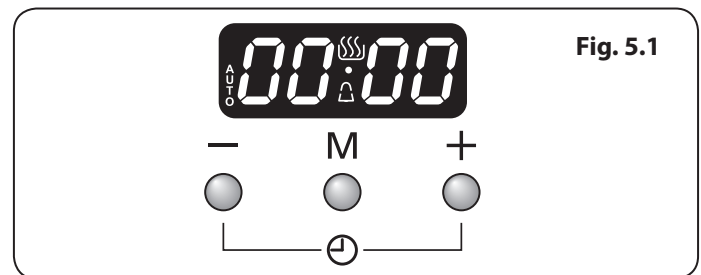

Fig. 5.1
1. The LCD clock is shown in **(Fig. 5.1)**. Once the cooker is connected and switched on, the display flashes (00.00) and the time starts from (00.00).